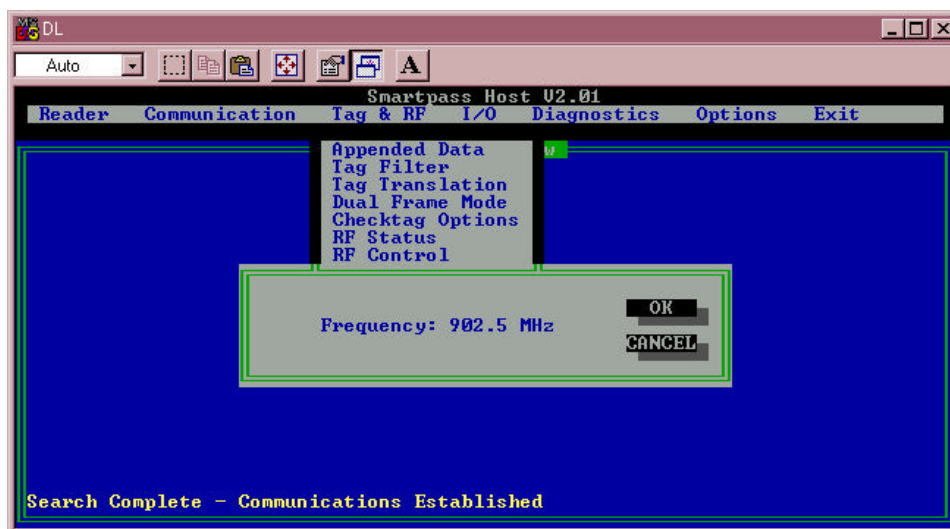

Figure 4-17 Current RF Display Box
1. To display the current RF setting, select the **Tag & RF** drop-down menu and click the **RF Frequency** option. The example in Figure 4-17 indicates a SmartPass frequency of 902.5 MHz.